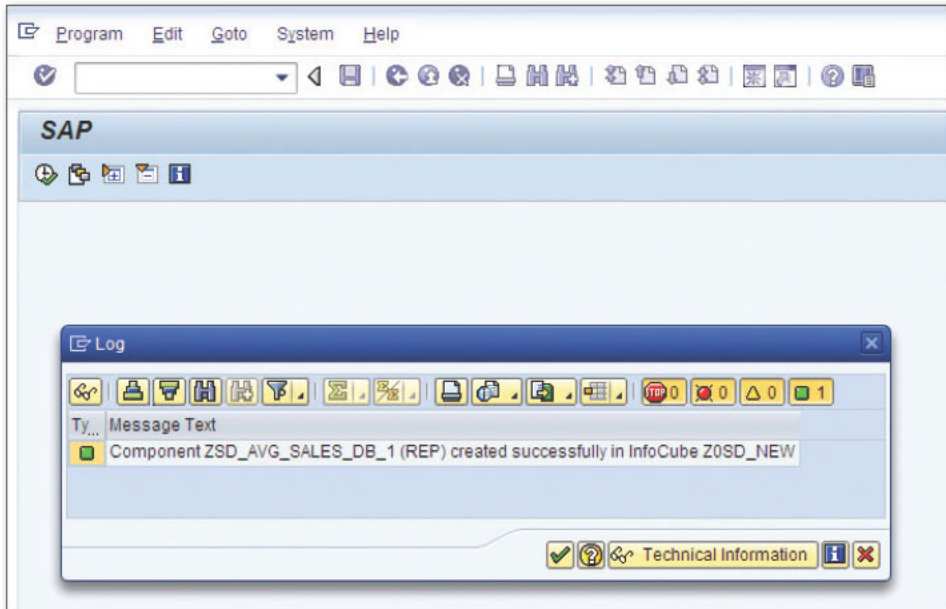

Figure 3 Log Displaying Message about the Copying Process
9. Scroll through the log; after all the error messages about the cubes not being identical, there should be one line confirming that your query was copied as shown in Figure 3.